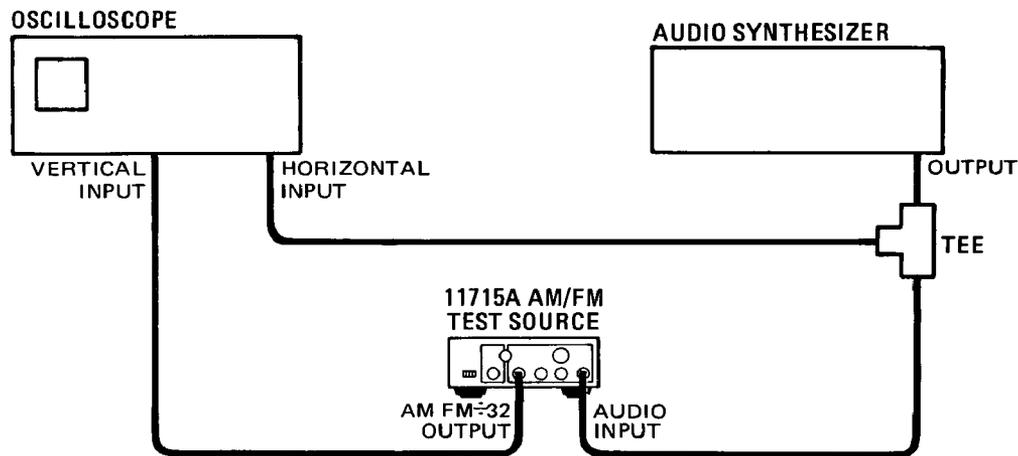

Figure 4-8. Low-Frequency AM Flatness Test Setup
11. Connect the equipment as shown in Figure 4-8.